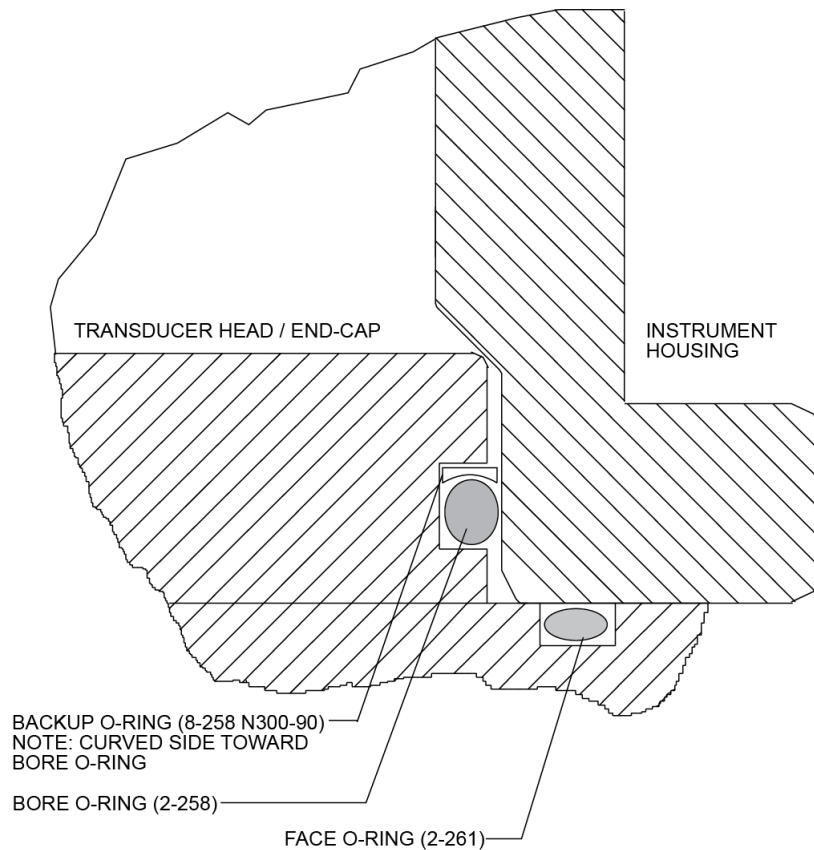

Figure 51. High Pressure O-Ring Detail View
4. The backup O-ring (see Figure 51) is installed in addition to the 2-258 bore O-ring on the transducer head assembly for 1000, 3000, and 6000-meter high-pressure systems only. Install the backup O-ring with the cupped side facing the 2-258 bore seal O-ring.